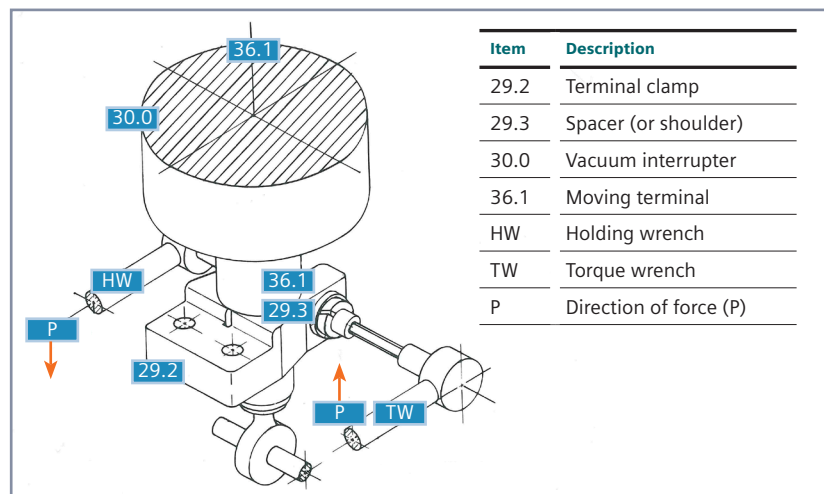

Figure 25: Illustration showing required technique for fastening terminal-clamp hardware
The following procedure in check list format describes the procedure for removing and replacing a vacuum interrupter. Components may be identified by reference to Figure 24: Vacuum interrupter replacement illustration and Figure 25: Illustration showing required technique for fastening terminal-clamp hardware.
- 1.2 Loosen the lateral bolt(s) on terminal clamp (29.2). Employ the illustrated procedure to loosen clamp hardware (refer to Figure 25: Illustration showing required technique for fastening terminal-clamp hardware).
- 2.10 Move the terminal clamp (29.2) against the step or the spacer (if applicable) of the moving contact (36.1) of the vacuum interrupter (30.0) so that the recess of the movable contact faces the connecting surface of the flexible connector (29.1). Employ technique illustrated to fasten terminal clamp (refer to Figure 25: Illustration showing required technique for fastening terminal-clamp hardware). Note opposing wrenches. Tighten the bolt(s) of the terminal clamp to a torque of 40 Nm (30 ft-lb), taking care to see that the terminal of the vacuum interrupter is not subjected to excessive bending movement.